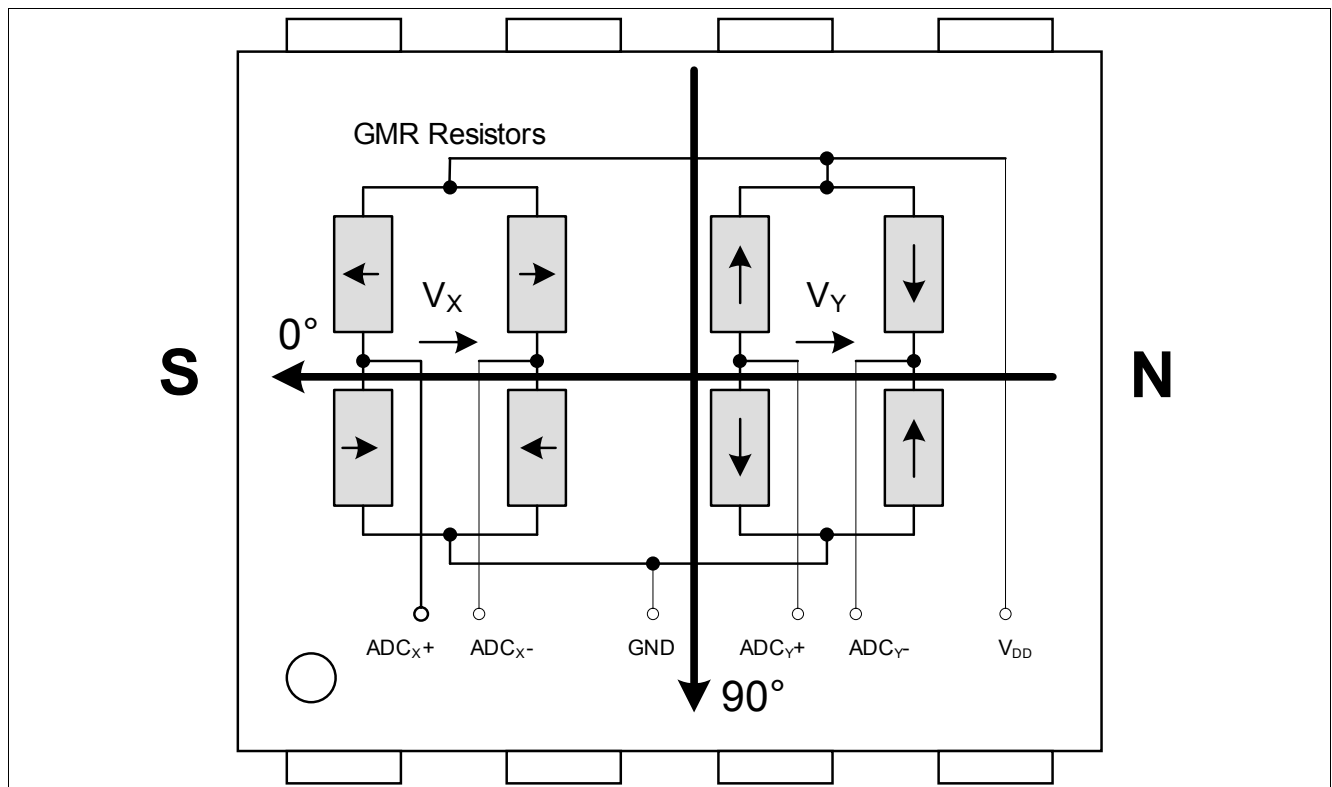

Figure 2-4 Sensitive bridges of the GMR sensor (not to scale)
**Attention:** Due to the rotational placement inaccuracy of the sensor IC in the package, the sensors  $0^\circ$  position may deviate by up to  $3^\circ$  from the package edge direction indicated in Figure 2-4.
In Figure 2-4, the arrows in the resistors represent the magnetic direction which is fixed in the Reference Layer. On top of the Reference Layer, and separated by a non magnetic layer, there is a Free Layer. When applying an external magnetic field the Free Layer moves in the same direction as the external magnetic field, while the Reference Layer remains fix. The resistance of the GMR elements depends on the magnetic direction difference between the Reference Layer and the Free Layer.